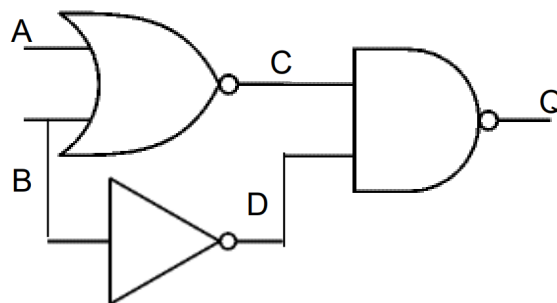

Figure 5[a]
5. [a] Figure 5[a] and Table 5 show a logic circuit and its incomplete truth table. Complete the truth table and show which input will cause a low output.